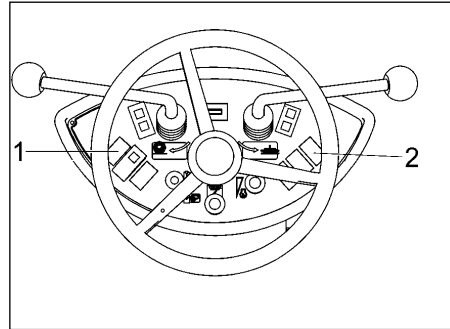

Fig.10
- Actuate switch (Fig. 10/1) and hold (hopper is released)
- Actuate switch (Fig. 10/2) by pushing = lift hopper
- Lower hopper by actuating switch (Fig. 10/1) and switch (Fig. 10/2); pull lever = lower hopper